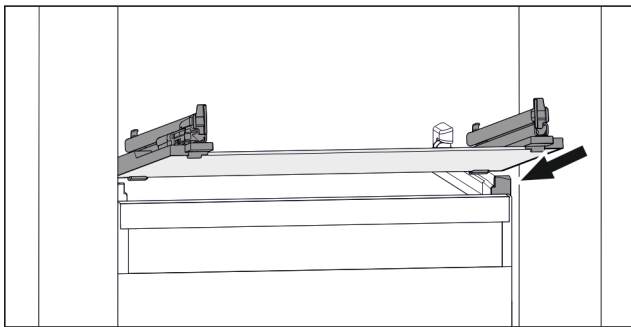

Fig. 66 Example illustration of glass shelf
- ▶ Position glass shelf at an angle behind the stoppers. (see Fig. 66)